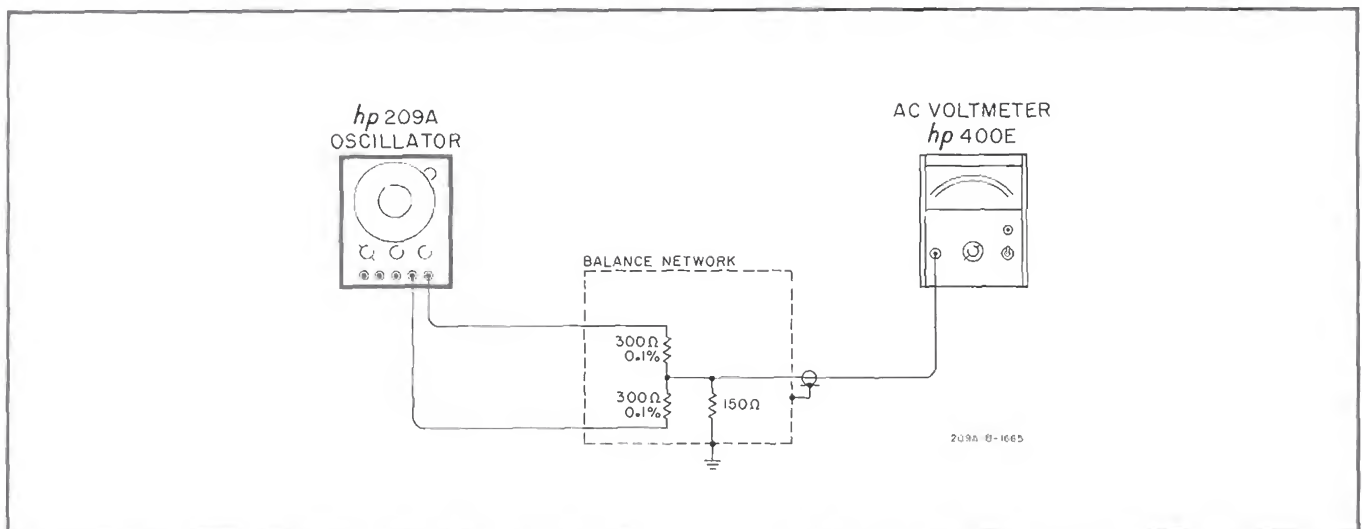

Figure 5-4. Balance Check
- Remove the 600 ohm load and connect the equipment as shown in Figure 5-4.